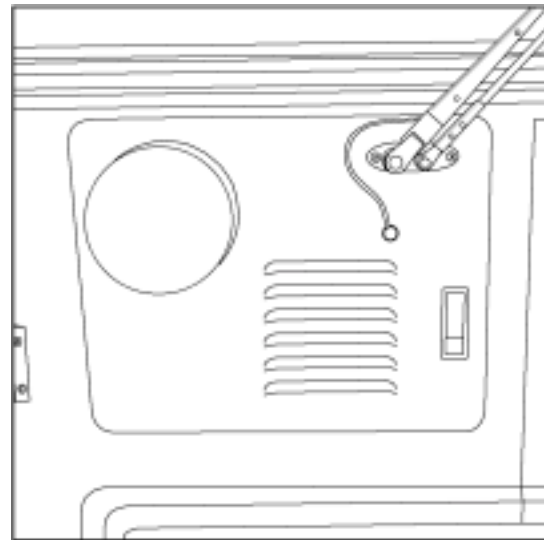

Figure 1—Front Access Door
1. See Figure 1—Front Access Door
1. Open front access door. **Figure 1—Front Access Door.**